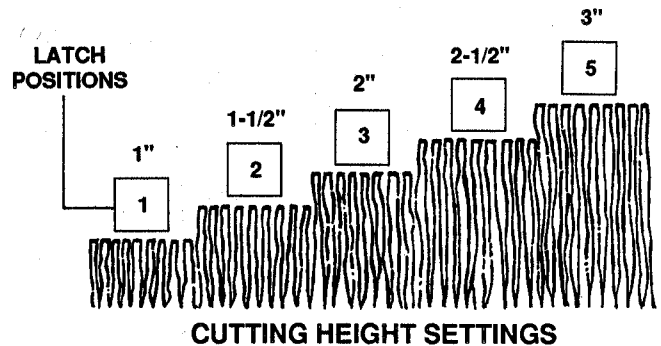

FIGURE 2.5
- B. Set all wheels at same cutting height. The highest cutting position is Notch 5; the lowest cutting position is Notch 1. See Figure 2.5 for example of cutting height settings.